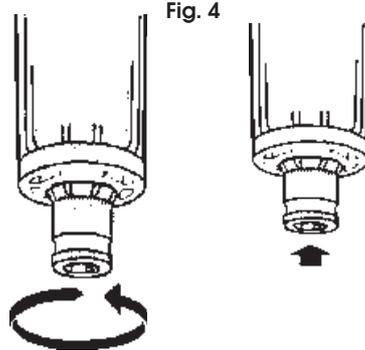

Fig. 4
*The Rebel 60 incorporates a Regulator/Filter which automatically allows any condensate to drain off when pressure in the reservoir is completely relieved. Water may also be drained off when the system is under pressure. The method of operation is shown in Fig 4.*